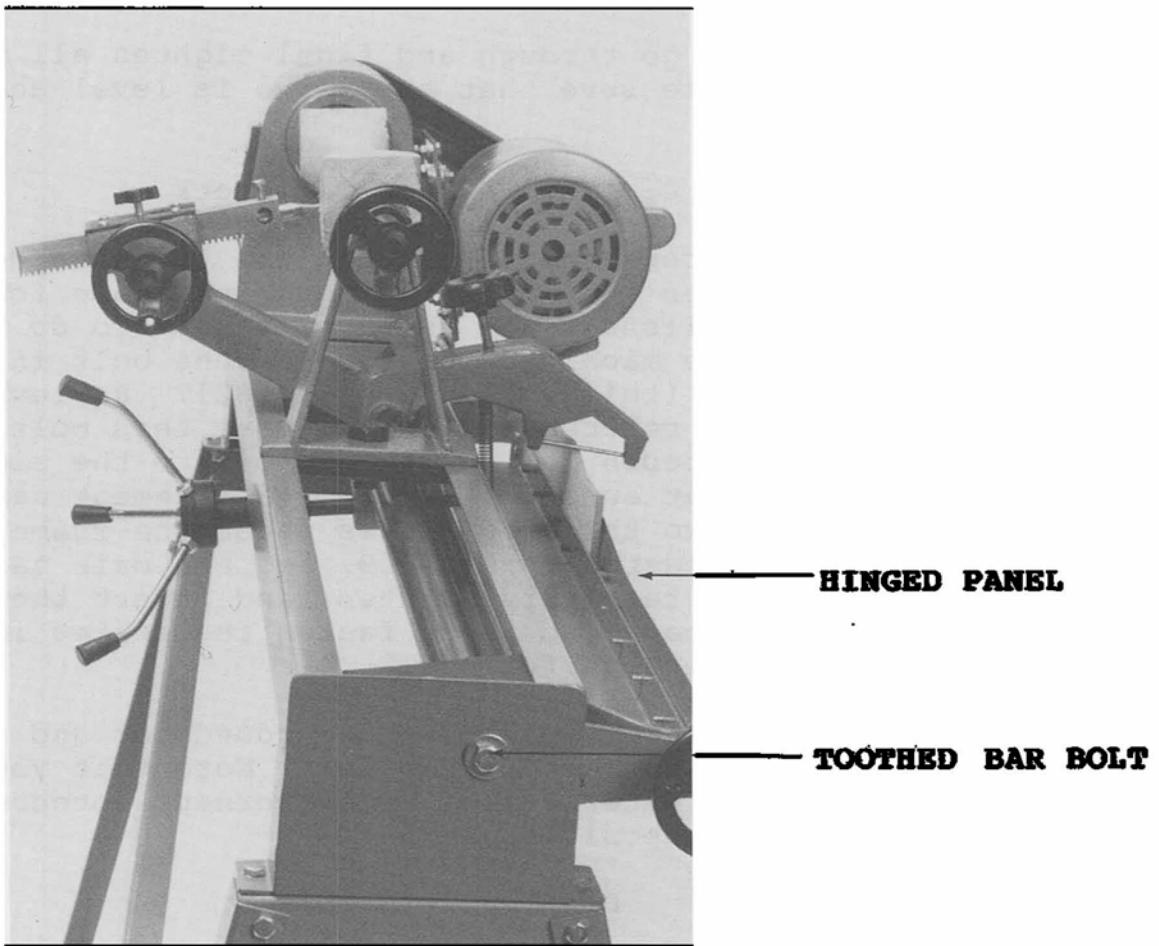

Figure 7 - shows location of rear center and hinged panel.
2. The hinged panel, part #60, goes on next. Use four of your 1/4" bolts for this purpose; a 10 mm wrench will be required. Note here that it is much easier to do it this way than vice-a-versa. See Figure 7.
4. We're now ready to wrap up the belt business by installing the guard. Use your last two 1/4" x 1/2" bolts for this purpose. One final word before leaving this topic: Right now, why not mount your faceplate on the spindle nose, and turn it over by hand. Any funny noises? Anything rubbing anywhere? It's easy to make a fix now, if you have to. We're on the home stretch! Mount your copy attachment casting now on the trunnion bolt and yoke provided on the round bar. See Figure 7.